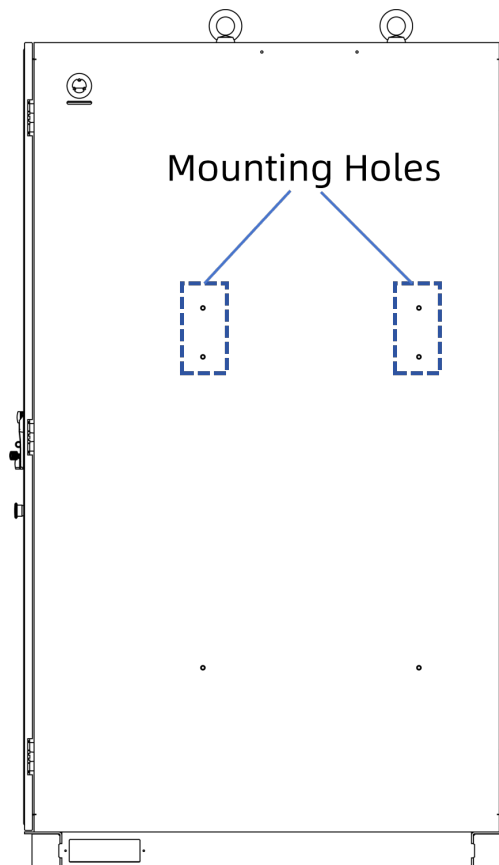

Figure 6-2: Mounting holes of the inverter
Four mounting holes for the inverter are provided on the right side panel of the cabinet, as shown in Figure 6-2.
1. Align the auxiliary bracket with the holes on the cabinet as shown in Figure 6-2 and secure the auxiliary bracket to the cabinet with M10 screws.